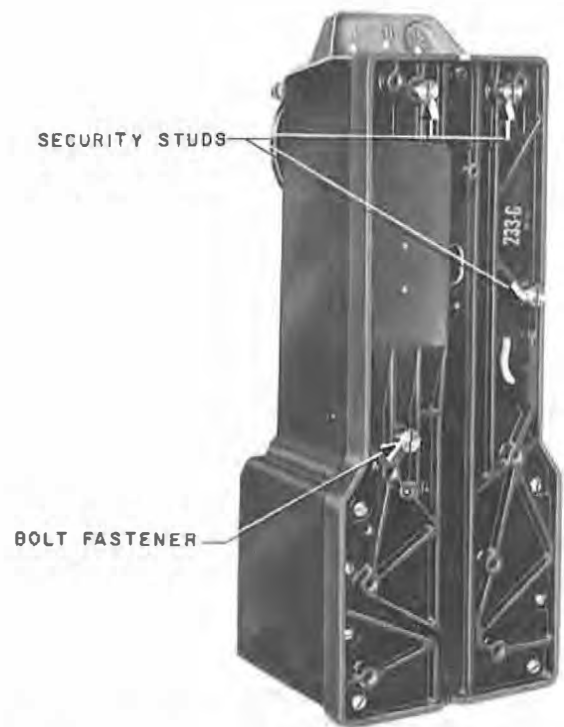

Fig. 2 — Location of Security Studs and Bolt Fastener on Aluminum Backplate
5.01 Security fasteners, such as security studs and bolt fasteners (Fig. 2), should be used in vulnerable locations where prying of upper housing is likely to occur. The stud fastener should be used in locations where maximum physical security is not essential, but where protection is desired against unauthorized use of upper housing keys.